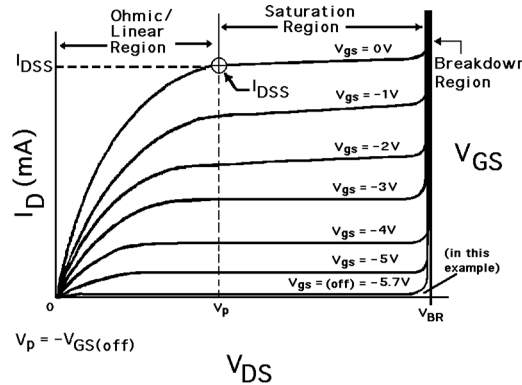
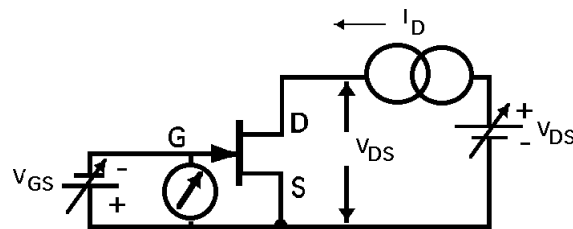

Figure 6.4. A typical set of output characteristic curves for an N-channel JFET.
Figure 6.8. $V_{GS(off)}$ measurement for an N-channel JFET.
A typical set of curves for an N-channel JFET showing drain current, drain-source voltage, various gate-source voltages, and other characteristics is shown in Figure 6.4. Notice first that three regions govern the JFET's operation: (1) the *ohmic* or *linear* region, (2) the *saturation* region, and (3) the *breakdown* region. The ohmic or linear region occurs at low drain currents and low drain-source voltages, below the point shown as " V_p " in Figure 6.4.
With a JFET, the maximum limiting current that can flow between the drain and source is known as the *drain saturation current* (I_{DSS}). This occurs at a particular V_{DS} , when the V_{GS} is at zero. It is clearly seen in Figure 6.4, where the drain current increases linearly, then begins to be pinched off or limited at the knee of the curve. This particular
Another important characteristic is $V_{GS(off)}$, the *gate-to-source cutoff voltage* necessary to turn the FET off. The V_{GS} for an N-channel JFET ranges from 0 volt for full conduction to some negative amount of typically several volts to turn the device off. This is shown in Figure 6.4, and we just saw it used in equation 6.4. Some JFETs have a remarkably low $V_{GS(off)}$ value. For example, a 2N4338 has a maximum $-1 V_{GS(off)}$, while a J202 has a maximum $V_{GS(off)}$ of -1.5 volt. At the other end of the scale, the popular Vishay-Siliconix general-purpose 2N3819 JFET has a maximum $-8 V_{GS(off)}$, while a Crystallonics high-voltage (300 V_{DGO}) 2N5543 has a $-15 V_{GS(off)}$. For some applications, where high supply voltages are involved (more than 20 to 90 volts), higher $V_{GS(off)}$ devices like these can be indispensable.
For a P-channel JFET, $V_{GS(off)}$ ranges from 0 volt for full conduction to some positive amount of several volts. For example, a J176 has a $V_{GS(off)}$ of $+4$ volt (remember it's a P-channel device, so it has a positive gate-to-source bias). With either type, this occurs when the V_{DS} is equal to or greater than the pinch-off voltage (V_p), so that only V_{GS} controls conduction through the channel. So with an N-channel JFET, while the value of V_p is some relatively low positive value, the value of $V_{GS(off)}$ will be the same value, but of opposite polarity. Today most manufacturers and circuit designers prefer using the term $V_{GS(off)}$ rather than V_p , and this is reflected in most JFET product data sheets. It is important for the circuit designer to know the knee of the curve and the minimum V_{DS} necessary to reach the pinch-off point. The graph shown in Figure 6.4 clearly shows the complete I_D versus V_{GS} curves (transfer curves), from V_{GS} equals 0 through $V_{GS(off)}$, for a typical N-channel JFET. However, the data sheet for your chosen device may not necessarily portray the data in exactly the same manner, and you might have to resort to measuring devices and plotting your own curves. These transfer curves are depicted in most JFET data sheets, and the circuit shown in Figure 6.8 shows how this is measured.